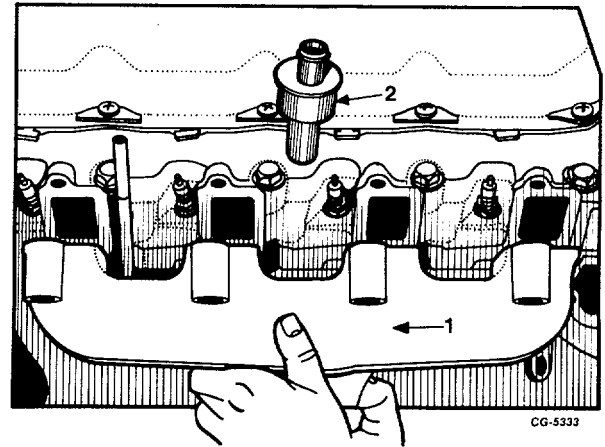

Fig. 40 Removing Right Exhaust Manifold
41. Remove right exhaust manifold and gasket by removing remaining six manifold bolts, Figure 40. Remove air manifold check valve.